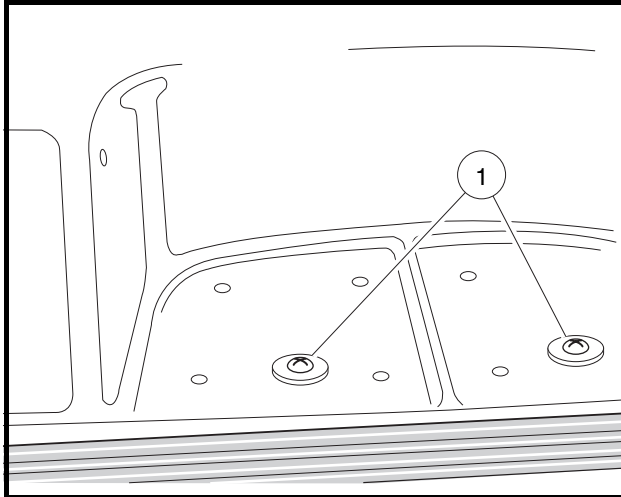

Figure 4-18 Rear Body Screws
4. Remove two screws (1), washers and lock nuts located at the rear of the vehicle (**Figure 4-18, Page 4-16**).
- 1.2. Tighten two screws (1) and lock nuts located under rear body to 20 in-lb (2.3 N·m) (**Figure 4-18, Page 4-16**).